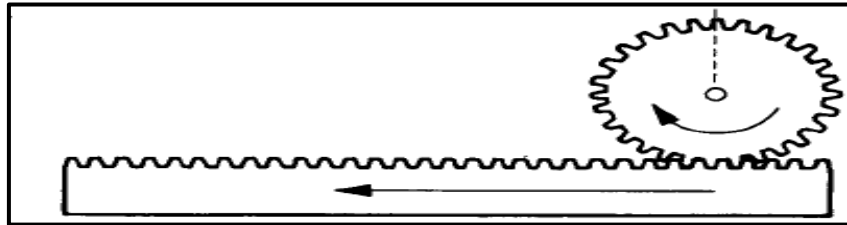

FIGURE 4.1
- 4.1 FIGURE 4.1 below shows a rack and pinion as used in the movement of the saddle of a lathe.